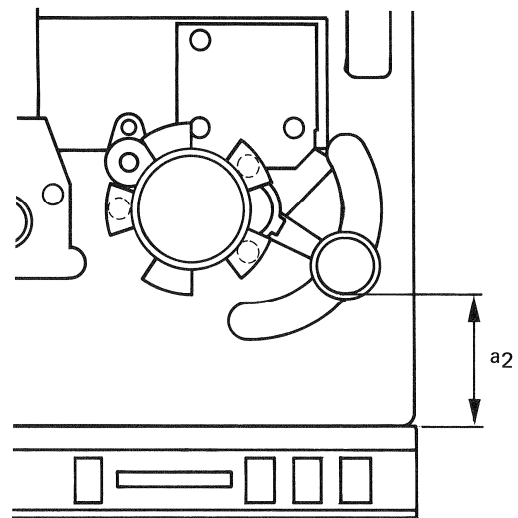

Fig. 5.3.—2
- Left-hand tension sensor: adjust potentiometer R3 (fig. 5.3.—1) until the distance a_1 from the upper edge of the press button rail to the sensing arm is 46 mm (1 13/16").
- Right-hand tension sensor: adjust potentiometer R3 (fig. 5.3.—2) until the distance a_2 from the upper edge of the press button rail to the sensing arm is 50 mm (1 31/32").